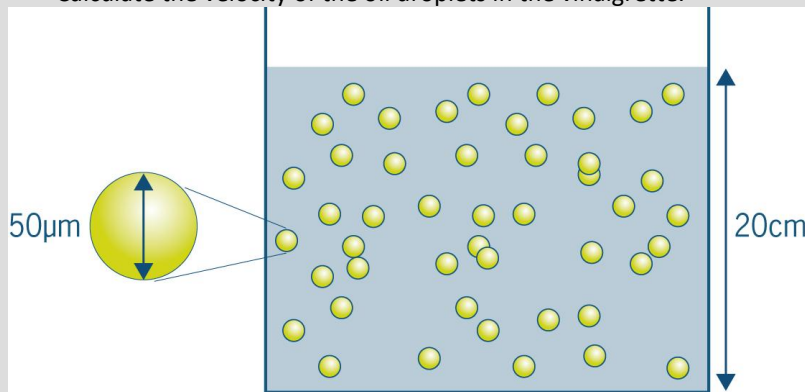

Figure 47 Vinaigrette
3. The chef would like to know how long the vinaigrette can be left to stand before it separates. For this you need to know the velocity of the oil droplets in the vinaigrette. The oil droplets in the vinaigrette have a diameter of $50\text{ }\mu\text{m}$ (Figure 47). The viscosity of water is $1 \cdot 10^{-3}\text{ Pa s}$. Calculate the velocity of the oil droplets in the vinaigrette.